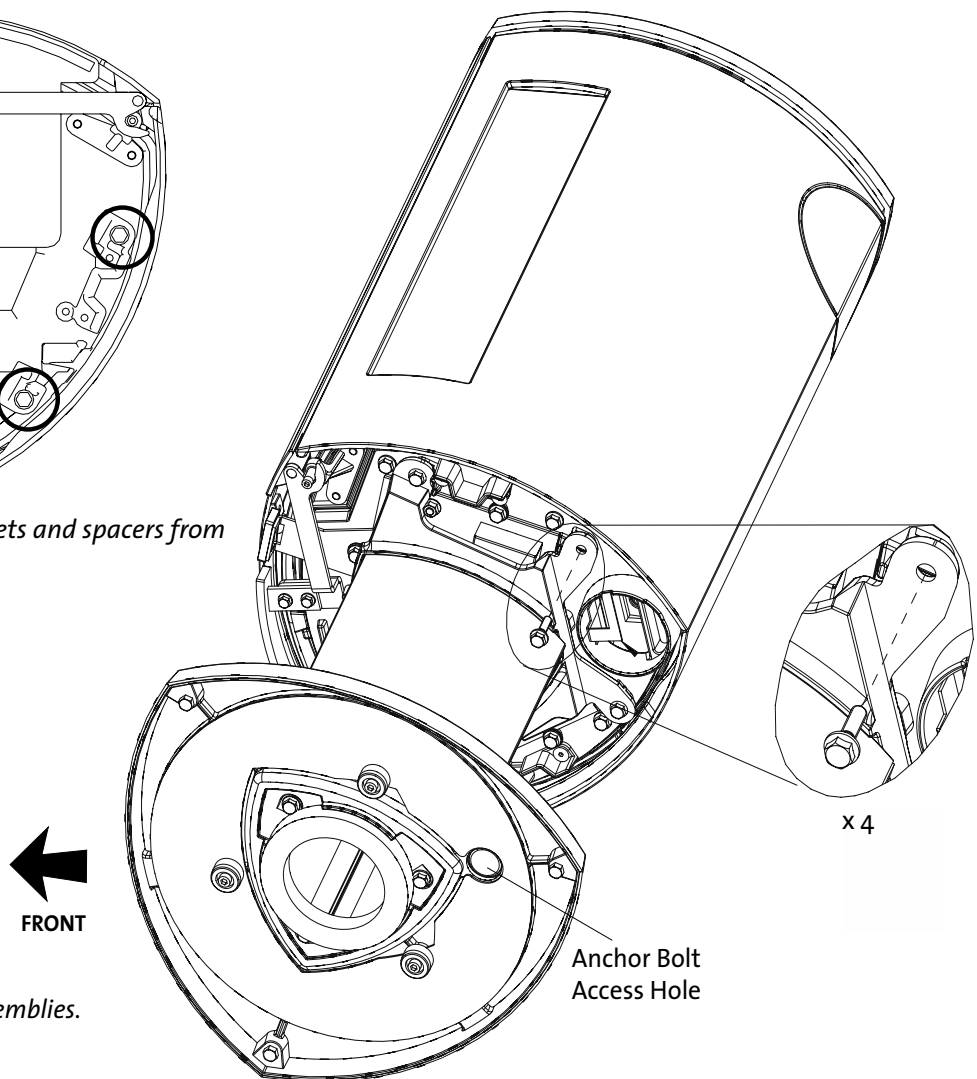

Figure 14.
3. With assistance, attach the Pedestal to the Firebox as shown in fig. 14 using the four M8 x 25 mm bolts previously removed. Tighten securely.